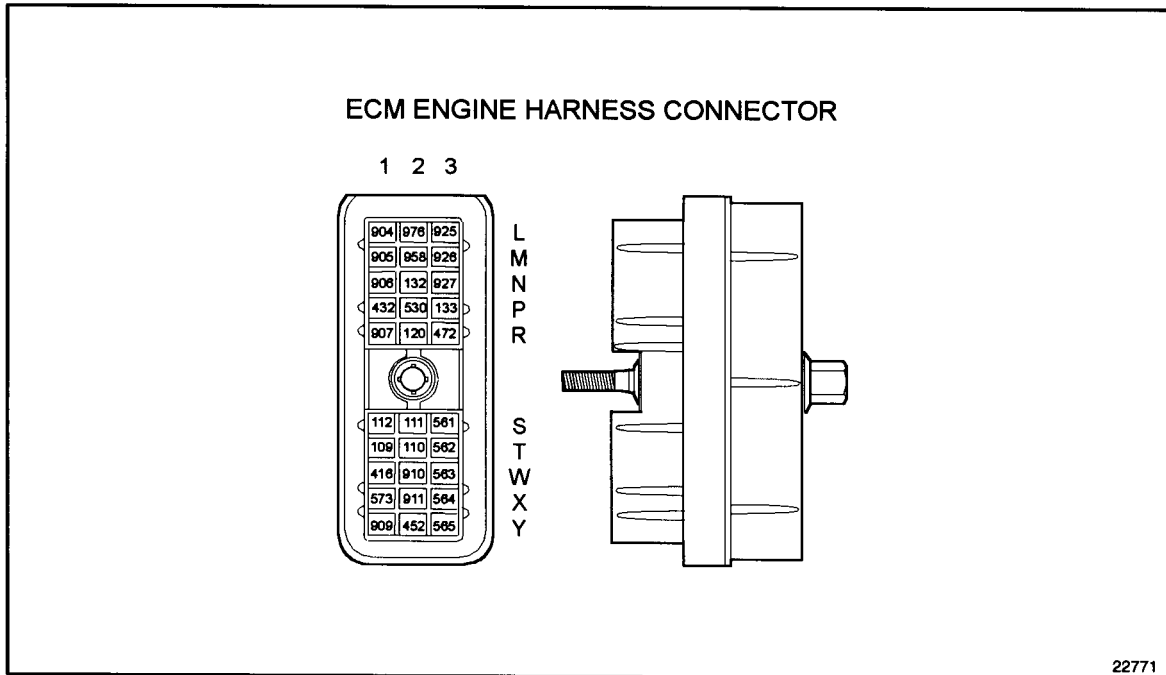

Figure 23-3 ECM Engine Harness Connector
4. Measure resistance between sockets R3 and W1 on the engine harness connector. See Figure 23-3.